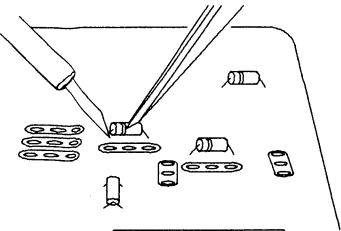

Fig. 1
1. Hold a Chip part to be removed with tweezers and apply heat to the solder at one end of the part with a soldering iron. (Fig. 1)